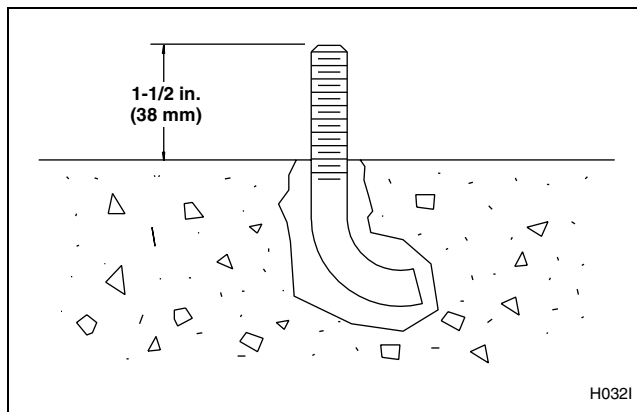

Figure 14
5. Use compressed air or a squeeze bulb to remove debris from each hole. Anchor J-bolt in place, using an industry-accepted anchoring compound. Verify that the J-bolts are in the correct locations and that 1-1/2 inches (38 mm) of each J-bolt protrude from the floor. Refer to *Figure 14*.
6. Use the mounting bolt layout in *Figure 14* to properly position the mounting bolts in the wet concrete. When using J-bolts, allow 1-1/2 inches (38 mm) to extend above the surface of the concrete.